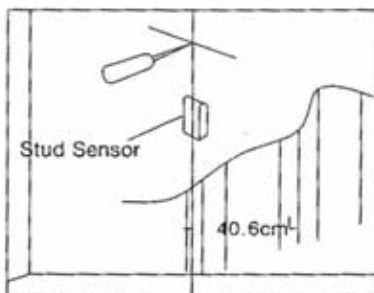
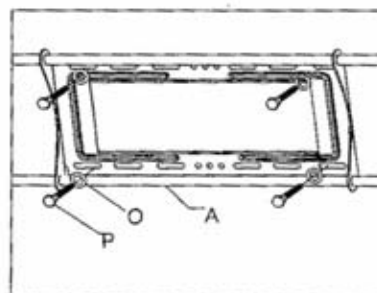

fig 2a
fig 2b
The wall plate (A) must be installed to two wood studs at least 30.5cm apart. Use the high quality wood stud finder to locate two adjacent studs. Suggest using an awl or thin nails to make sure the location of the wood stud (as shown in fig 2a), use the 5.0mm drill bits drill the 6.4cm deep hole in each wood stud's desired height. then use four M8 square head bolts (P)and four pieces metal pads(O) install the wall plate to the wall ,please make sure the installation direction of the wall plate correct (as shown in fig 2b)